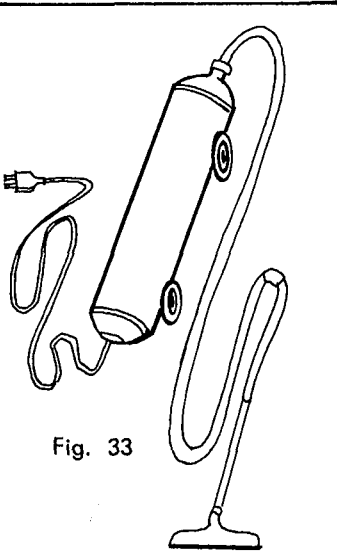
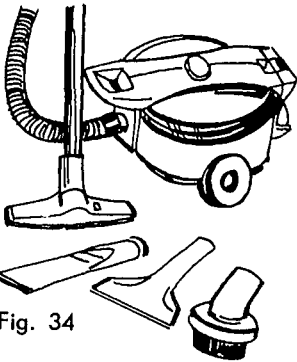
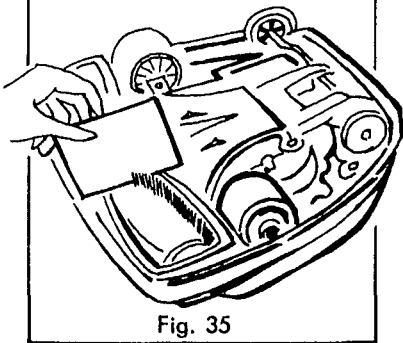

Fig. 33
Fig. 34
Fig. 35
There are three general types of cleaners, the cylinder type, Fig. 33, the canister type, Fig. 34, and the upright type, Fig. 35. The cylinder and canister types are always straight suction cleaners. The upright, Fig. 35, may have a revolving brush or roll to sweep or vibrate the rug.
Remedy: Find the nozzle adjustment on your cleaner and adjust according to manufacturer's directions. On cleaners with a rotating brush or roll, the clearance between the cleaner nozzle and the rug should be the thickness of a half-dollar. Fig. 35.
Remedy: Hold machine with nozzle up, lay a ruler or piece of stiff cardboard over the nozzle. The bristles should not quite touch the ruler; a space of $1/32$ -inch is desirable. The adjustment is usually made by moving a pin, screw or lever at each end of the brush. Fig. 35.
Remedy: Examine the belt. Fig. 35. Make sure it is around both the brush and motor shaft and is not tangled with hair and strings. If, after cleaning the brush, it still will not turn with the motor, the belt is probably stretched and should be replaced with a new belt.
1. Lubrication: Most cylinder-type cleaners, Fig. 33, and many upright cleaners, Fig. 35, have bearings which are sealed and packed with grease at the factory. These types require no lubrication but should be inspected at least yearly by a competent serviceman. If any unusual noise develops in these cleaners they should be taken immediately to a serviceman, dealer, or manufacturer for inspection. Some upright cleaners of the type shown in Fig. 35 have oil holes. Oil these cleaners yearly with 3 or 4 drops of electric motor oil. An occasional drop of oil on the wheel bearings of the cleaner is desirable.